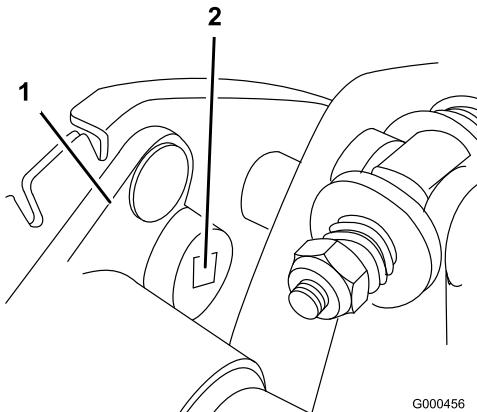

Figure 36
- B. Using a  $3/8$  inch drive torque wrench, rotate the bearing housing with  $35$ - $40$  in.-lb. of torque to set belt tension (Figure 36)